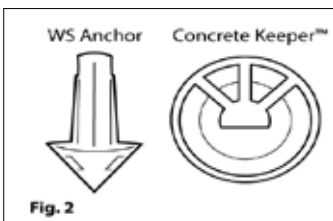

Fig. 2
5. To ensure proper integration between TufTile WS anchors, *Concrete Keepers™, and the concrete it is important to tap the entire TufTile surface with a rubber mallet. **(Figure 2)** *Concrete Keepers™ are a feature of TufTile polymer products only.